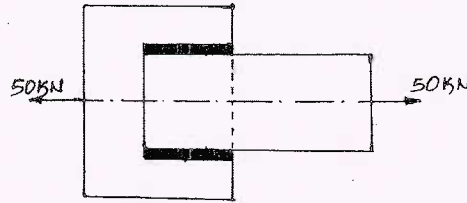

Fig.Q8(b)
- b. Two plates are joined by means of fillet weld as shown in Fig.Q8(b). The leg dimension of the weld is 10mm and the permissible shear at the throat cross-section is  $75 \text{ N/mm}^2$ . Determine the length of each weld. (04 Marks)